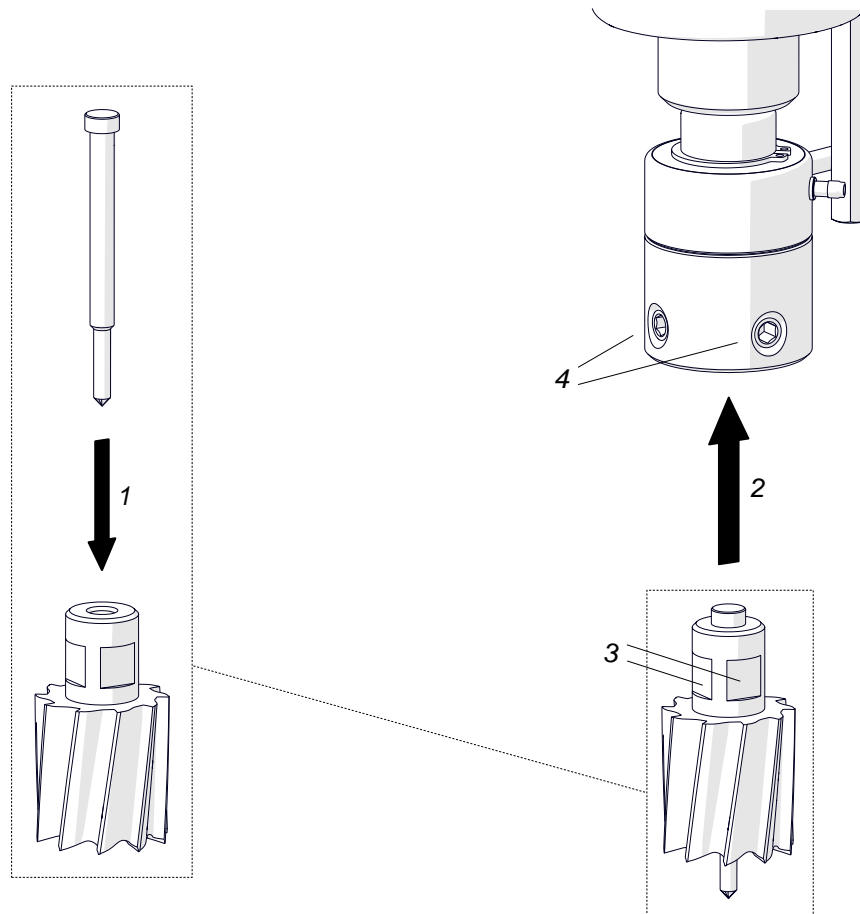

Fig. 3. Installing the annular cutter
Install the arbor as described before, wear protective gloves, and then insert the proper pilot pin into the annular cutter (1, Fig. 3). Use a clean and dry cloth to wipe the cutter. Next, place the cutter into the arbor (2) so that the flats 3 are aligned with set screws 4, and then use the 5 mm hex wrench to tighten both screws.